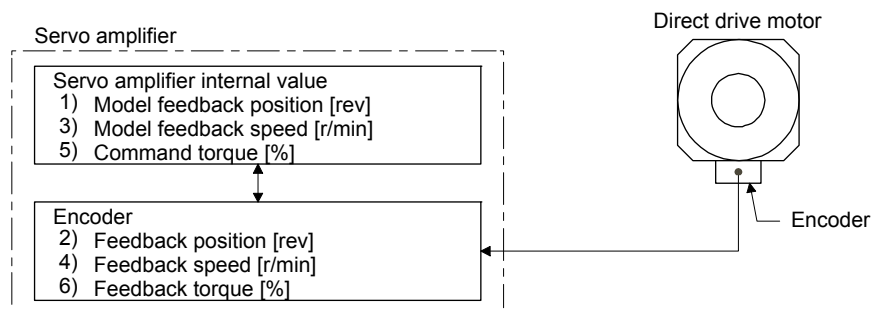

Figure 15.1 Outline of servo control error detection function
When you compare the model feedback position (1)) and the feedback position (2)) in figure 15.1, if the deviation is more than the value of [Pr. PL05 Position deviation error detection level] (1 (0.01 rev) to 1000 (10 rev)), [AL. 42.1 Servo control error by position deviation] will occur and the linear servo motor will stop. The initial value of this detection level is 0.09 rev. Replace the set value as required.
When you compare the model feedback speed (3)) and the feedback speed (4)) in figure 15.1, if the deviation is more than the value of [Pr. PL06 Speed deviation error detection level] (1 r/min to 2000 r/min), [AL. 42.2 Servo control error by speed deviation] will occur and the linear servo motor will stop. The initial value of this detection level is 100 r/min. Replace the set value as required.
When you compare the command torque (5)) and the feedback torque (6)) in figure 15.1, if the deviation is more than the value of [Pr. PL07 Torque/thrust deviation error detection level] (1% to 1000%), [AL. 42.3 Servo control error by torque/thrust deviation] will occur and the linear servo motor will stop. The initial value of this detection level is 100%. Replace the set value as required.